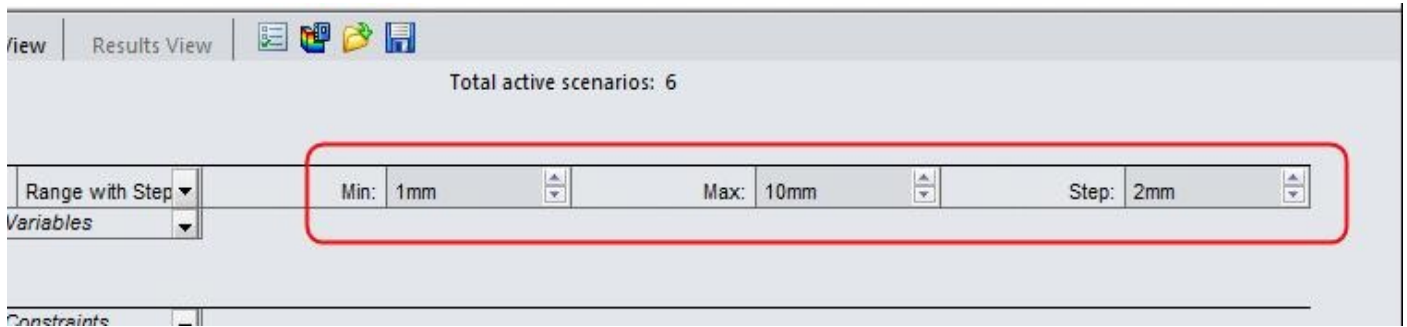

Figure-21. Values to be changed
- Change the value of **Min**, **Max**, and **Step** as shown in Figure-21 by using the spinners.